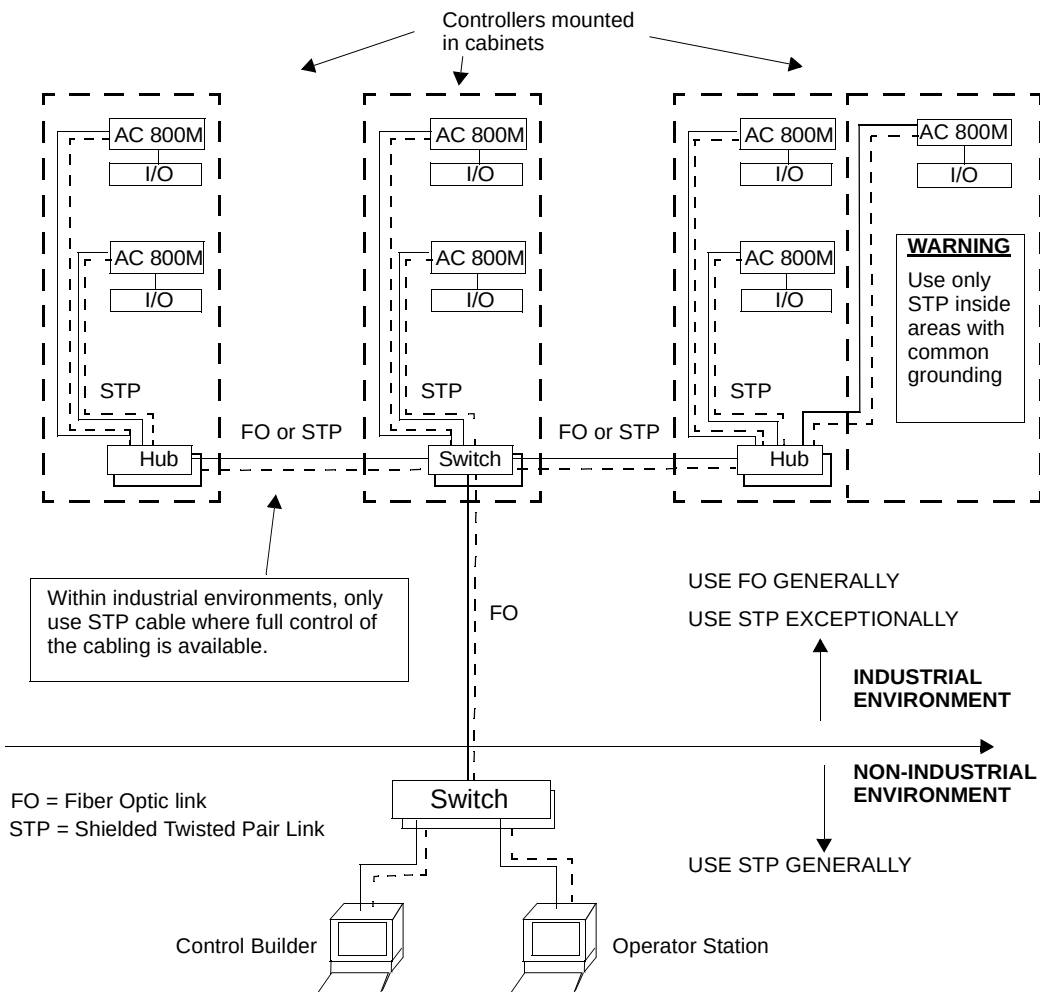

Figure 27. Example of AC 800M Controllers Connected to a Control Network
The Control Builder installed in a PC is normally connected to the AC 800M Controller via the Control Network and the CN1 or CN2 ports on the controller (see Figure 27 on page 92).
The AC 800M controller is always connected to the Control Network via an STP (Shielded Twisted Pair) cable. Should the local environment be of an industrial nature, the AC 800M / Control network connection must be converted over to a Fiber Optic (FO) cable. This is achieved by installing a Switch/Hub having both optical and electrical ports. See Figure 27 on page 92.